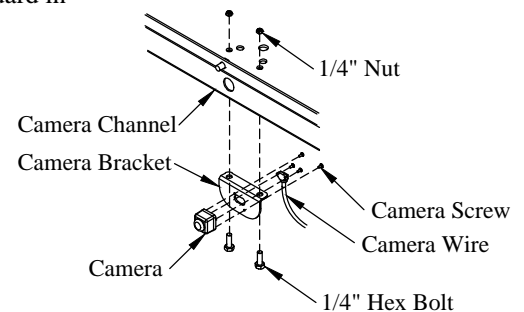

Figure 12: Back-up camera installation diagram.
6. **Install** the camera into the bracket provided with the screws from the camera (Figure 12).